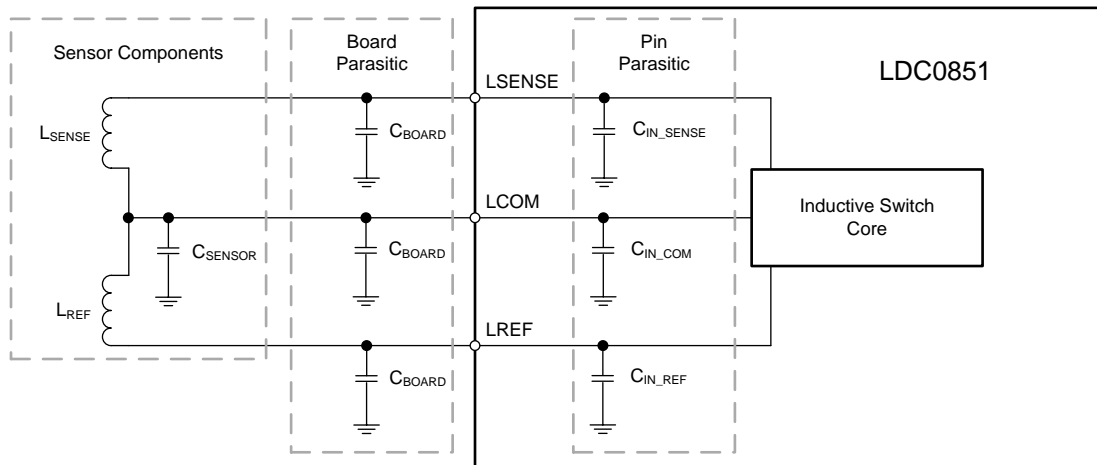

Figure 25. Sensor Components, Board Parasitics, and Package Parasitics Diagram
- C_{BOARD} is the parasitic capacitance of the board, see Figure 25
- (3)
- C_{TOTAL} is sum of external sensor, board parasitic, and pin parasitic capacitances connected to LCOM, refer to Figure 25 (6)